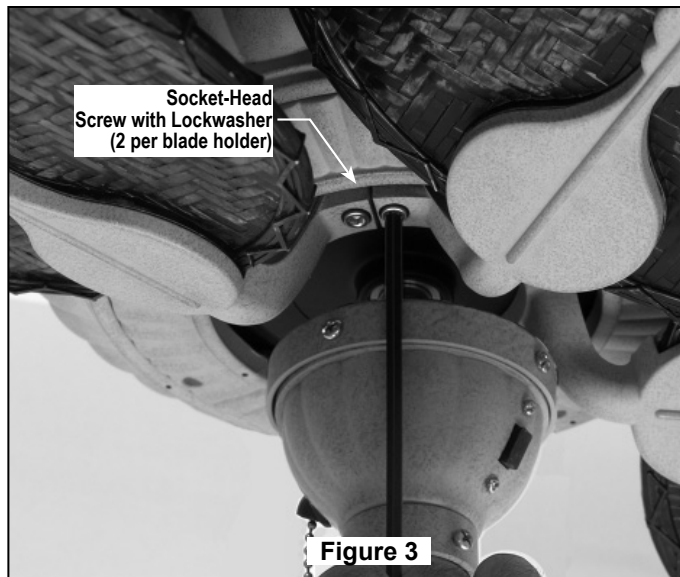

Figure 3
4. Assemble Support Shaft with Cover Base Connection and set-screws (3) onto the Base Assembly. (Figure 3)
8. Attach Blade Holders to the bottom of the Fan Motor Hub using the $\frac{1}{4}$ -20 x $\frac{5}{8}$ " Screws w/Lock washers as shown in Figure 3.
9. Make sure the screws with lockwashers securing the Blade Holders to the Fan Motor Hub are tight and that the Blade Holders are properly seated. (Figure 3)